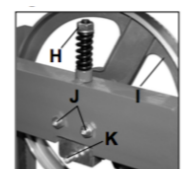

Figure 6
Turning the nut (H) counterclockwise lowers and decreases tension on the Drive Wheel (I) allowing you to adjust the alignment of the blade or to replace the blade entirely. (Figure 6)